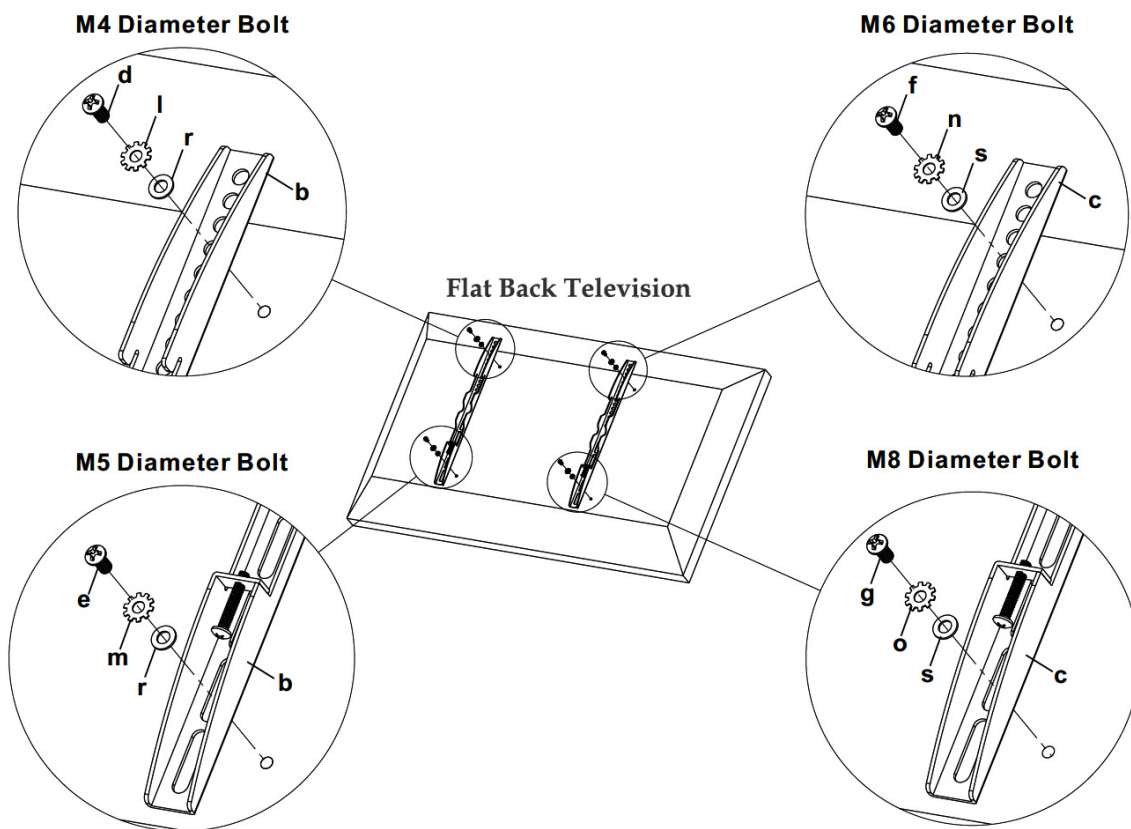

Figure 4
4. Thread the bolts into the TV using the correct lock washer (l, m, n, o) and washer (r, s). See Figure 4.